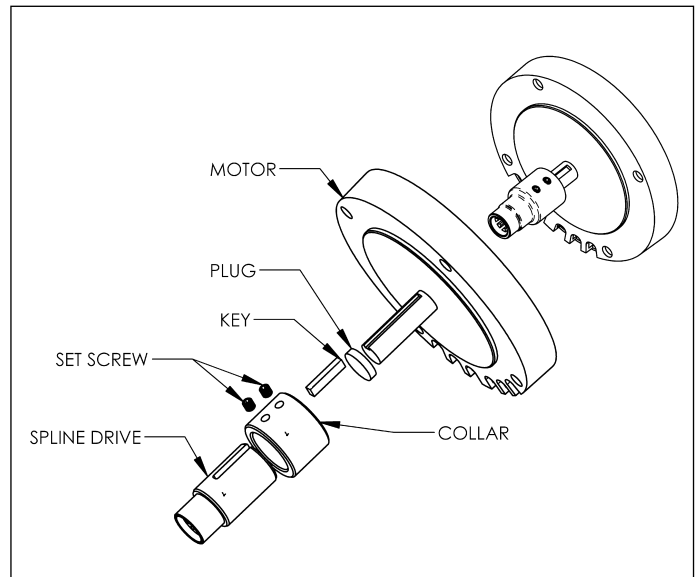

Figure 4 - Type B Motor Shaft Coupler
3. If you have a Type B coupler, install the rubber plug (See Figure 4) into the bottom of the motor shaft bore in the drive coupling.
5. Install the set screws into the coupler and tighten the set screws securing the coupler, key and motor shaft together. For Type B collar, ensure the collar set screws line up over the key and it is flush with the back edge of the coupling prior to tightening (See Figure 4).